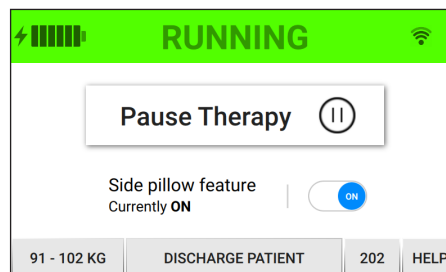

Figure 6. Running screen
1. When the controller is operating, a screen will display with a green status bar to indicate that the controller is running. (Fig. 6)
1. Therapy can be stopped by pressing "Pause" on the running screen. (Fig. 6)